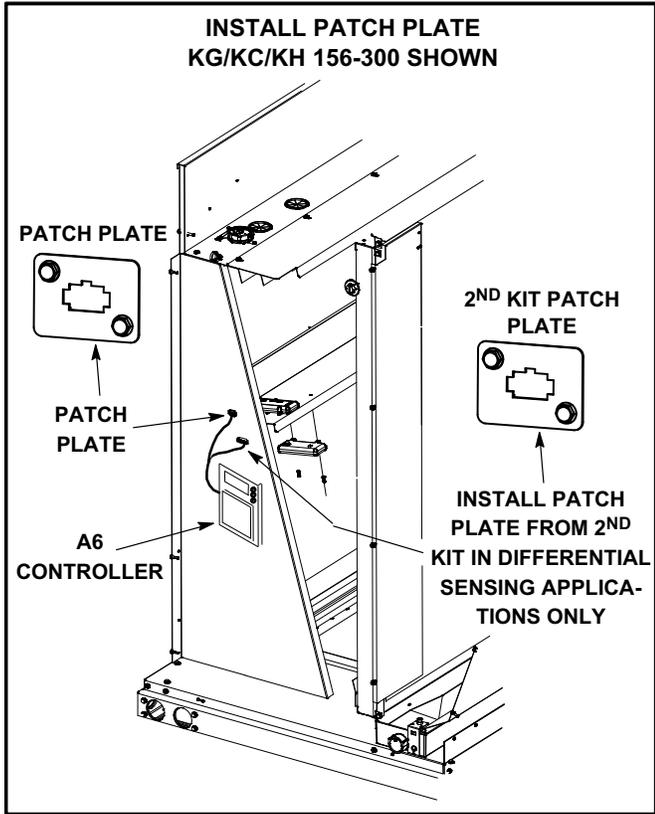

FIGURE 1
- 1- Install patch plate over opening in side panel used by J104 and P104/P105 connectors. See figure 1. Patch plate location is shown on the inside of the side panel in figure 3 for 024-090 units and figure 4 for 092-150 units. Secure with #6-32 screws.